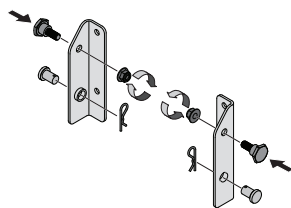

Figure 1
1. **If not already installed by the factory,** install a shoulder bolt from the 700 Series Mount Kit (689-00086A) hardware pack on each bracket, securing them with flange lock nuts also included in the hardware pack. Refer to Figure 1.
2. Insert the clevis pins from your hardware pack on each bracket, securing them with cotter pins also included in the hardware pack. Refer to Figure 1.